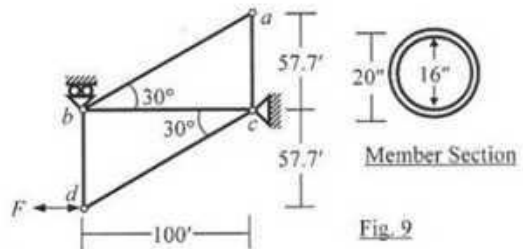

Fig. 9
13. Use the AISC-ASD criteria to calculate the allowable value of  $F$  to avoid buckling of any member of the truss  $abcd$  shown in Fig. 9, if  $F$  acts